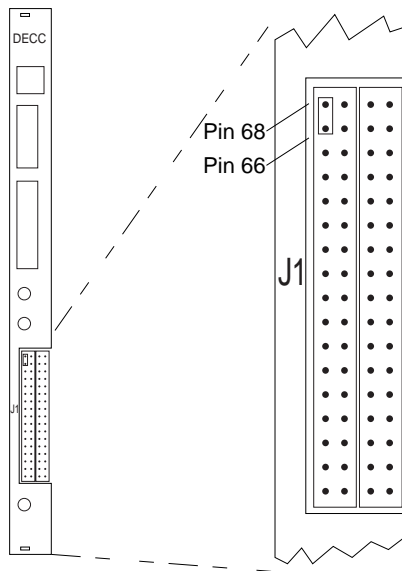

Figure 6. Self-Test Jumper on DECC Board
2. Connect a jumper between pins 68 and 66 on the 68-pin condo connector on the DECC board, as shown in **Figure 6**.
- Remove the self-test jumper that you connected in step 2 above. See Figure 6.